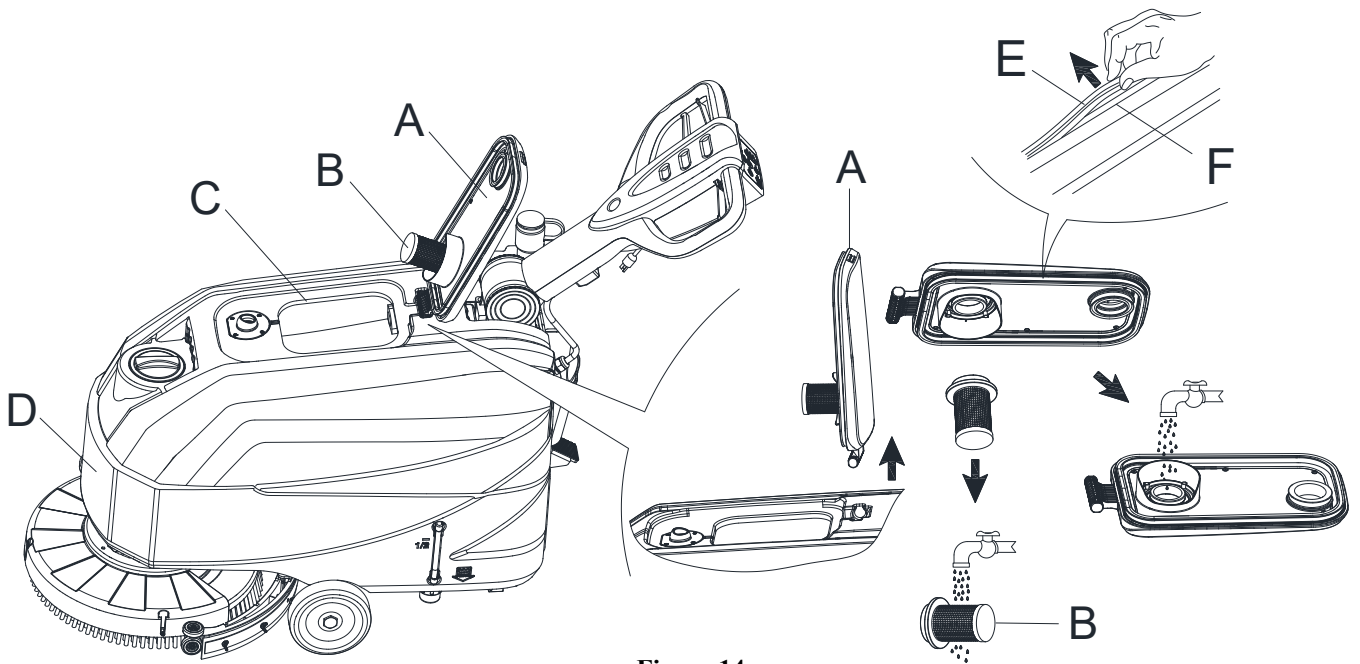

Figure 14
3. Turn the recovery tank lid (A, Figure 14) 90-degree position where it can be taken off from the recovery tank, and then take out the float ball filter (B) from the recovery tank lid.
7. Check whether the contact surface of sealing strip (E) has integrity and sealing is sufficient. If necessary, take the sealing strip of the tank out of the groove (F) and replace it. Assemble the new sealing strip as shown in (Figure 14), the joint should be back in the middle area.
8. Close the recovery tank lid (A).